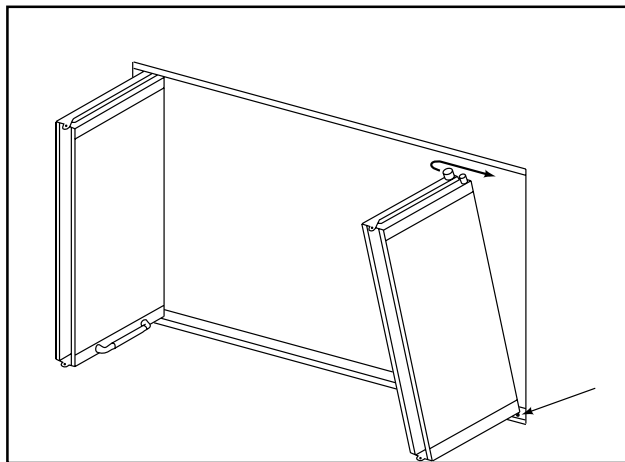

Figure 4
- Insert the pin into the round hole located at the bottom outside corner of the fireplace opening. See Figure 4
- d. Tilt the door towards the center of the fireplace so the top pins clear the top door track edge. See Figure 4.
- e. Slide the pins into the top door track until the pins snap into the holes in the spring clips. See Figure 4.